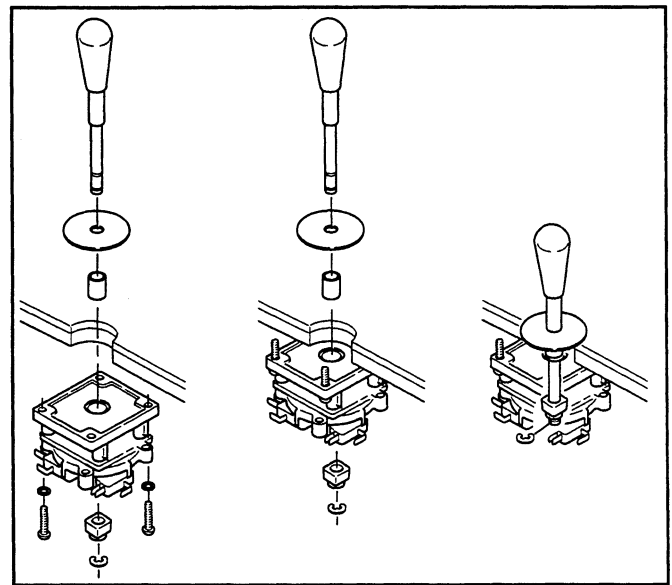

FIGURE 4
18. Install the joysticks on the control panel as shown in Figure 4.